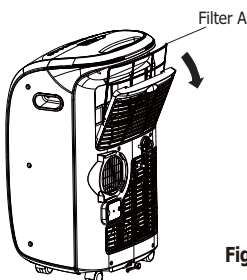
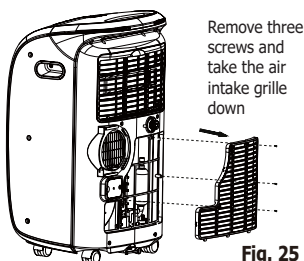

Fig. 24
Fig. 25
- This unit has two filters, they are filter A and B. Grasp the upper panel tab and take off the filter A which is behind the grill of the back panel (Fig.24). Remove the lower filter B by loosening the screws. Take down the air inlet grille, then remove the air filter as shown in Figs.25 & 26.